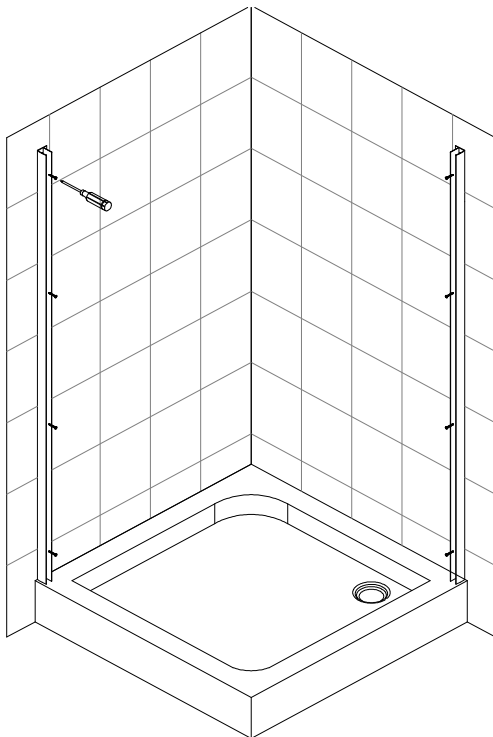

Fig. 3
- 3) Fix the 2) wall connecting profiles with 3) M4x30 screws. As Fig. 3
- 3) Fissare i profili compensatori con viti M4x30 3). Vedi fig. 3